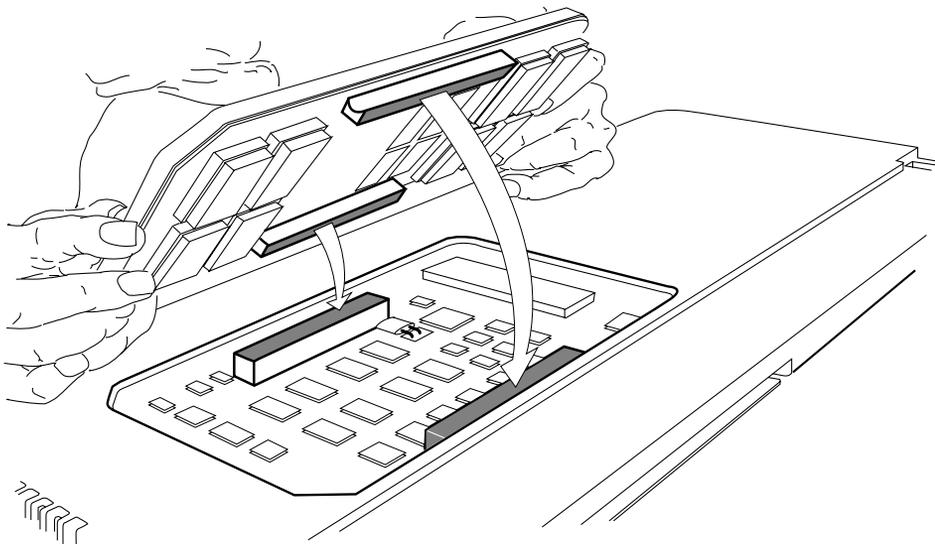

Figure 4-5. Replacing the Feature Module
- ▶ 6. Align the connectors on the new feature module with the connectors in the processor (see Figure 4-5).